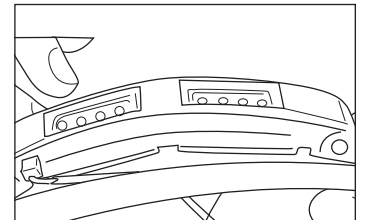

Figure 13
- Tighten the screws (Figure 13).